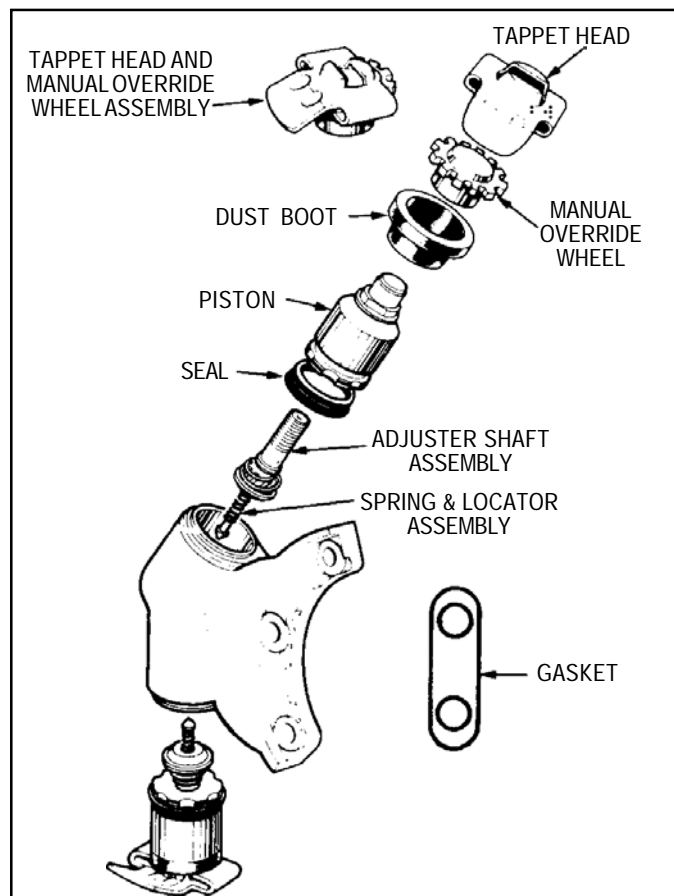
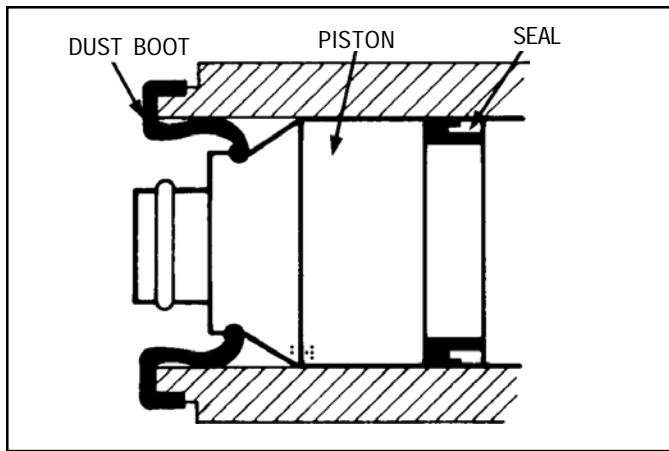

FIGURE 15 - WHEEL CYLINDER
FIGURE 21 - WHEEL CYLINDER
2. Remove the tappet head and manual override assembly from the wheel cylinder body, *Figure 15*. Separate the tappet head from the manual override wheel.
1. Lubricate the piston seal, *Figure 15*, with new DOT 4 brake fluid and install the seal onto the piston with the lip facing inwards, *Figure 21*.